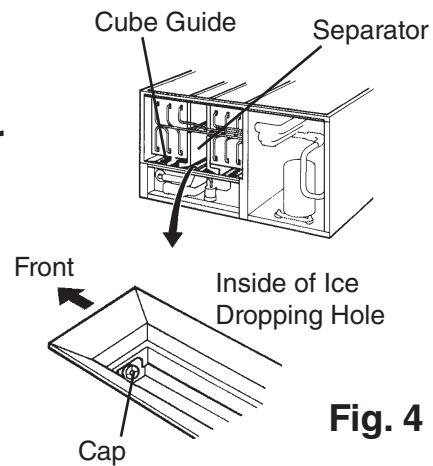

Fig. 4
- 3) Drain the water tank by removing the cap located on the front bottom part of the ice dropping hole. See Fig. 4.